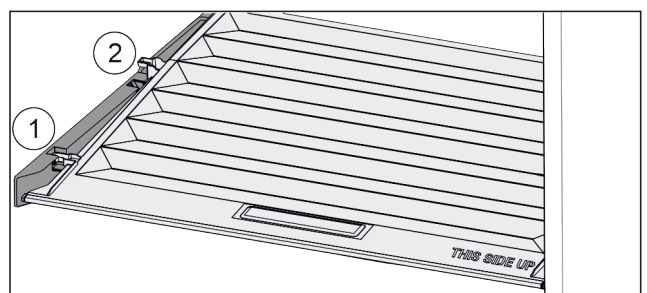

Fig. 85
- ▶ Pull the lid up at the front to the opening in the retaining parts *Fig. 85 (1)*.
- ▶ Lift from the back and pull it up and out *Fig. 85 (2)*.